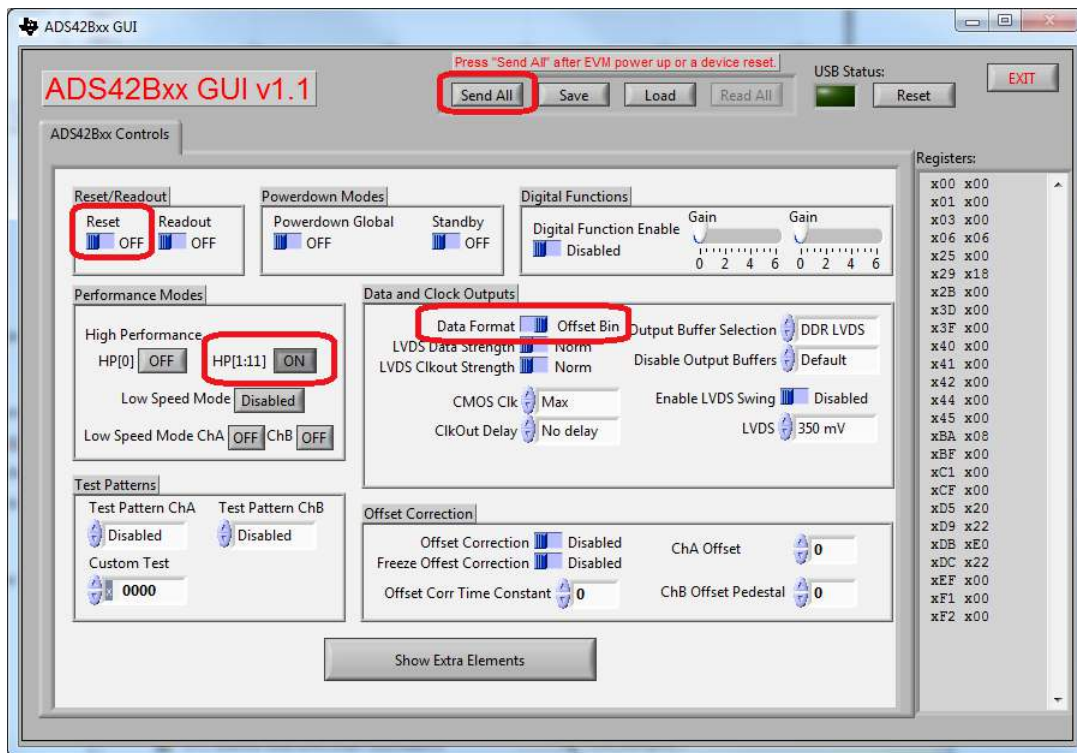

Figure 5. ADS42Bxx GUI
- Click *Send All*, see Figure 5.